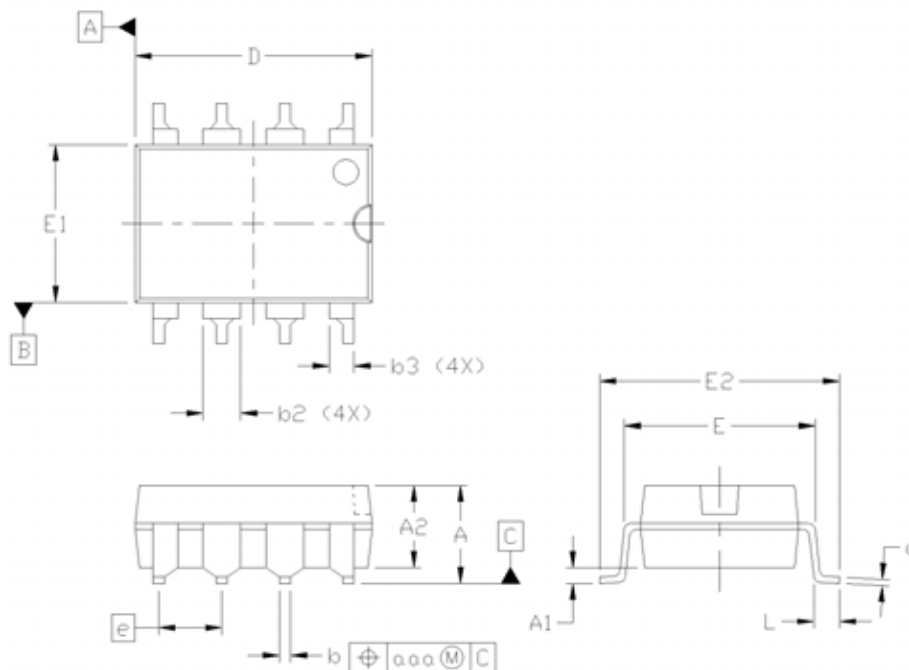

Figure 13. DIP8 Package
Figure 13 illustrates the package details for the Si8920 in a DIP8 package. Table 9 lists the values for the dimensions shown in the illustration.
- Updated Figure 13, “DIP8 Package,” on page 16.